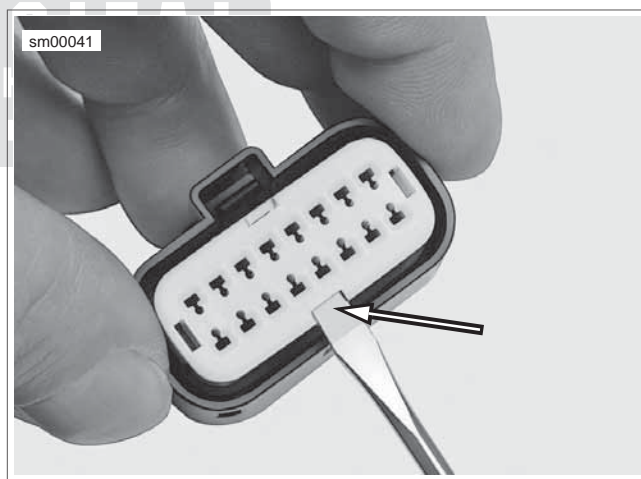

Figure A-34. Molex Connector: Secondary Lock Pry Slot (Socket Housing)
- a. **Socket Housing:** See Figure A-34. Use a small screwdriver in the pry slot. The slot next to the external latch provides a pivot point.